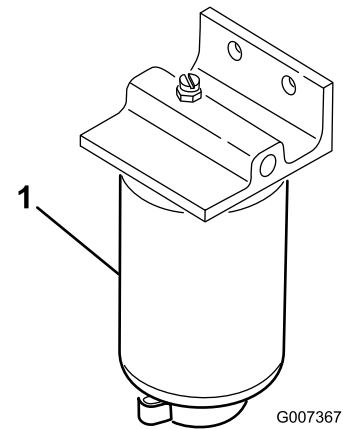

Figure 58
1. Place a clean container under the fuel filter (Figure 58).